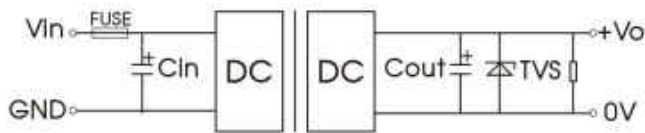

Fig.1
- (1)We recommended using the recommended circuit shown in Fig.1 during product testing and application, otherwise please ensure that at least a 220μF electrolytic capacitors is connected at the input in order to ensure adequate voltage surge suppression and protection.
- (2)We recommended increasing the value of Cin and pay attention to the unstable input voltage if the product input side is paralleled with motor drive circuit and/or larger energy transient circuits, to ensure the stability of input terminal and avoid repeatedly start-up problems due to input voltage lower than undervoltage protection point.
- (3)We recommended increasing the output capacitance with limited to the capacitive load specification and/or increasing the voltage clamping circuit(such as TVS) if the output terminal is inductive device such as relay or a motor, to ensure adequate voltage surge suppression and protection.
- (4)Input and/or output ripple can be further reduced by appropriately increasing the input & output capacitor values Cin and Cout and/or by selecting capacitors with a low ESR (equivalent series resistance). Also make sure that the capacitance is not exceeding the specified max. capacitive load value of the product.